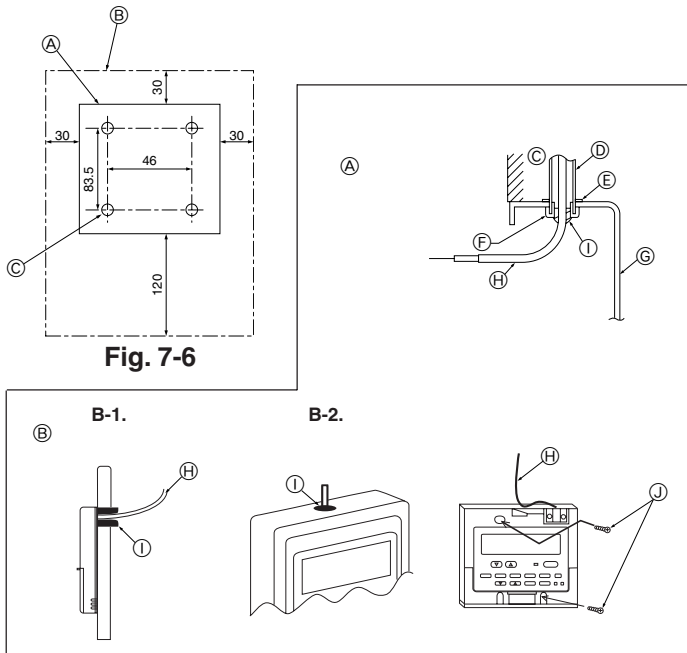

Fig. 7-7
- Seal the service entrance for the remote controller cord with putty to prevent possible invasion of dew drops, water, cockroaches or worms. (Fig. 7-7)